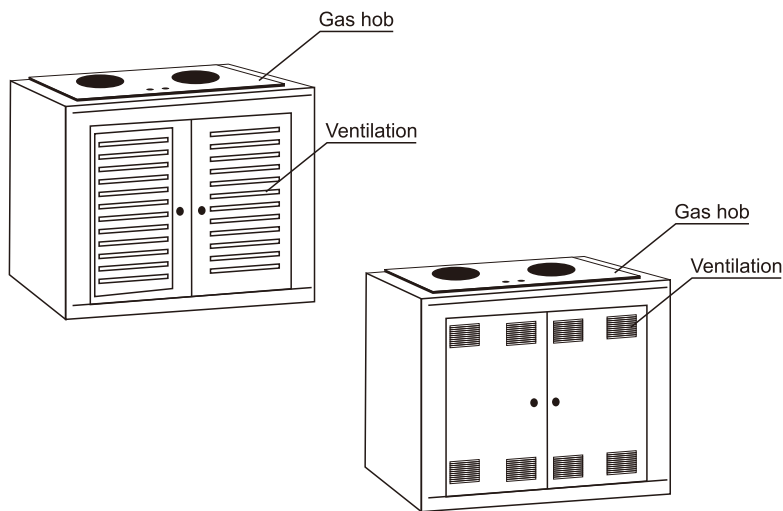
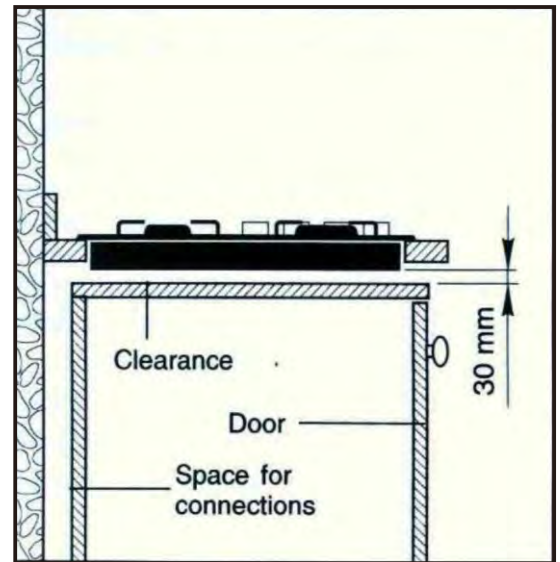

Fig.7
Fig.8
- ✓ within the unit, between the bottom of the cooktop and the upper surface of any other appliance or internal shelf, there must be a clearance of at least 30 mm (Fig.8);
The fixture has to be made according to specific requirements in order to prevent the gas burners from going out, even when the flame is turned down to minimum, due to pressure changes while opening or closing the cupboard doors. The cabinet should have some clearance holes to facilitate ventilation and is open to air (Fig.7) If there is any drawer or built-in oven set under the cooktop, it is recommended that a 30 mm clearance to be left between the cooktop and the fixture surface (Fig.8). The surface shall be heat resistant and made of low thermal conductivity material.